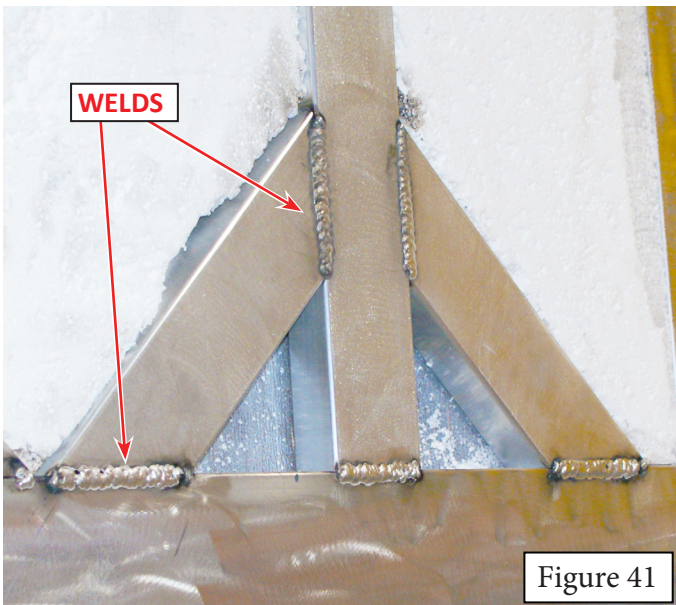

Figure 41
11. When all the welds are complete, inspect them thoroughly for gaps and holes that may have occurred during the process (Figure 41).